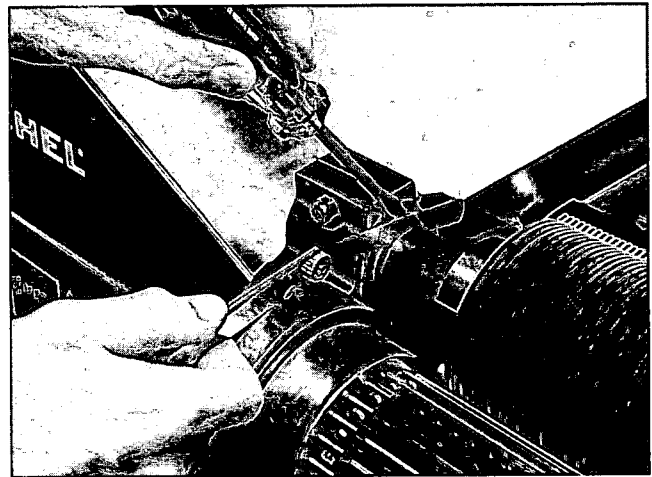

Figure 34 — Setting the .004" (.102 mm) clearance between circular knife spindle and bearing.
4. **Swing dicing unit back** into maintenance position. Tighten bearing pinch bolt opposite gear end. Insert .004" (.102 mm) feeler gauge between bearing and spindle (Figure 34); then slide other bearing against spindle. Tighten pinch bolt on gear end.